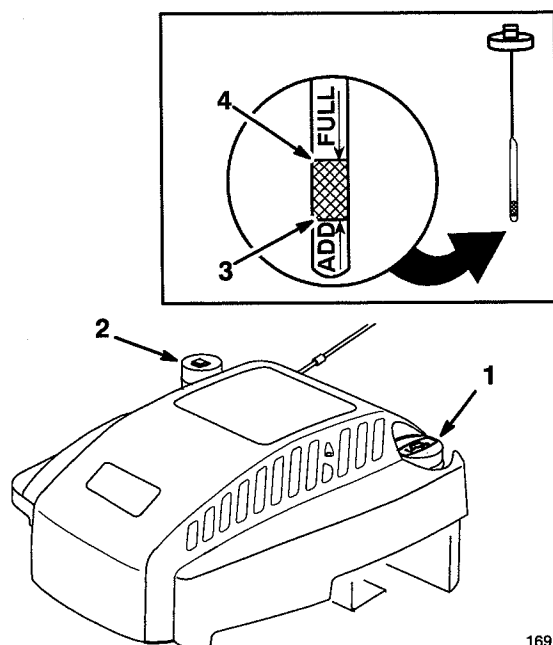

Figure 6
Before each use, assure oil level is between ADD and FULL marks (Fig. 6). Add oil if level is low.
3. Wipe dipstick and insert it into filler neck. Rotate cap 1/4 turn. Then remove dipstick and check level of oil (Fig. 6). If level is low, add only enough oil to raise level to FULL mark on dipstick. **DO NOT FILL ABOVE FULL**
1. Clean around fuel tank cap and remove cap from tank (Fig. 6). Do not fill tank full. Using unleaded gasoline, fill fuel tank to within 6 to 13 mm (1/4" to 1/2") from top of tank, not into filler neck.